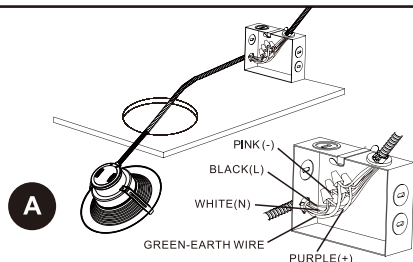

Fig. 2
- Connect the AC and dimming supply cables inside the hardwire junction box (not included) as follows: black to black, white to white, pink to pink (or gray), and purple to purple (Fig. 2).